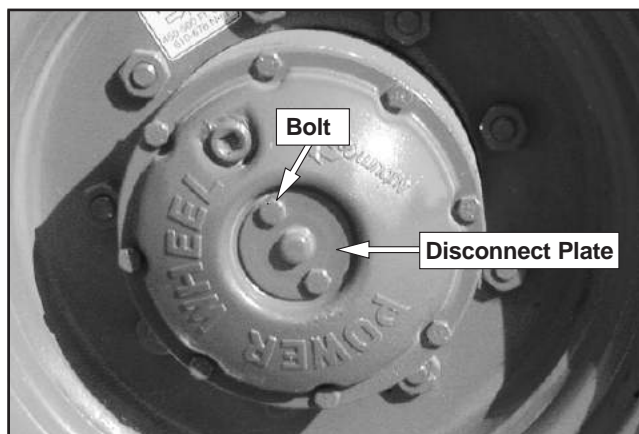

Figure 9.3—Drive Wheel
6. At each drive wheel, remove the two bolts from the disconnect plate (refer to Figure 9.3). Turn the plate over so the nipple points inward. Reinstall the two bolts.
8. At each drive wheel, remove the two bolts and return the plate to its original position as shown in Figure 9.3.